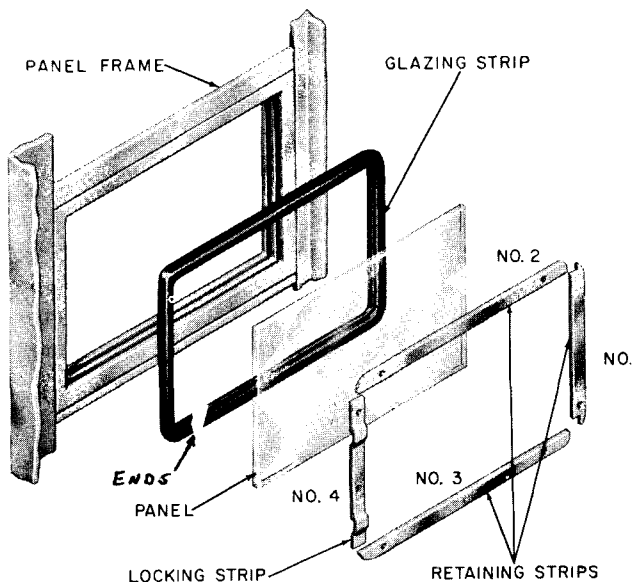

Fig. 2—Assembly of Side or Rear Panels
- (1) Remove No. 4 locking strip.
- (2) Remove retaining strips No. 2 and No. 3.
- (3) Remove retaining strip No. 1.
- (4) Remove panel and rubber glazing strip.
- (5) Apply rubber glazing strip to replacement panel.
- (6) Insert panel into frame with the beaded edge of retaining strip on the outside.
- (7) Replace retaining strips in sequence as shown in Fig. 2.
8.02 The side and rear signs are removed in the same manner as the side panels (see 7.03 and Fig. 2).
16.02 Replace glass panels in same manner as side panels (Fig. 2).